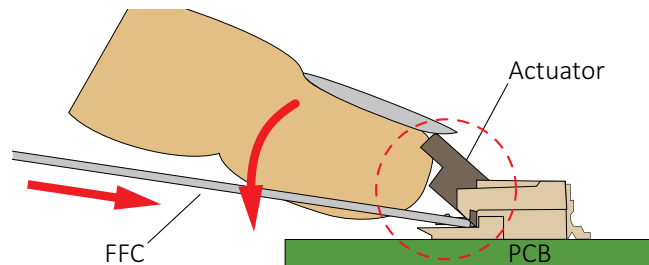

Figure 17: Engaging the FFC in the 22-pin FFC flip connector
4. Holding the FFC in position, flap down the actuator to closed position (see Figure 17).